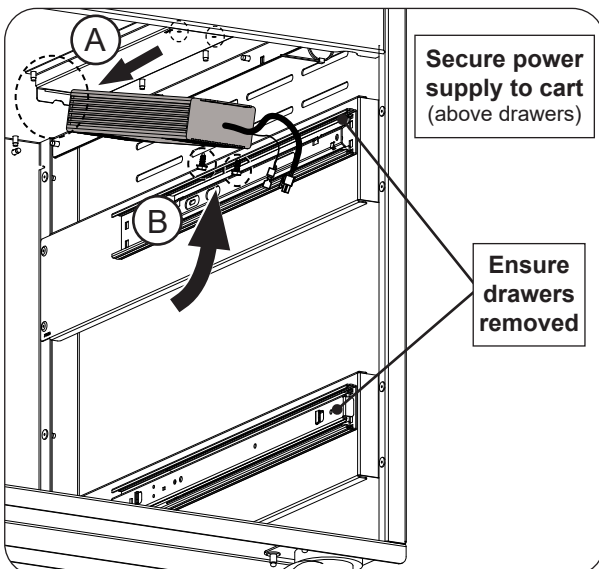

Fig. 10-4 Mount power supply
1. Insert the rear end of the power supply against the tabs on the cabinet ceiling flange (Fig. 10-4, A). Use the provided screws with a flathead screwdriver or 5/16" hex nut driver to secure the power supply into place. See Fig. 10-4, B.